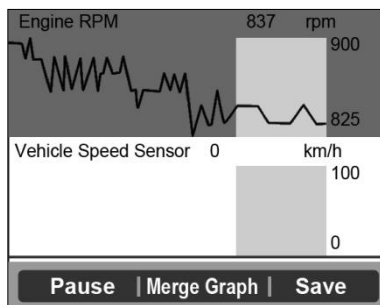

Figure 5.13
- Select **Two Graphics** to display two graphs on the same screen. (Figure. 5.13)
- If the “**Merge Graph**” at the bottom appears, merged graph information is available. (Figure 5.13)